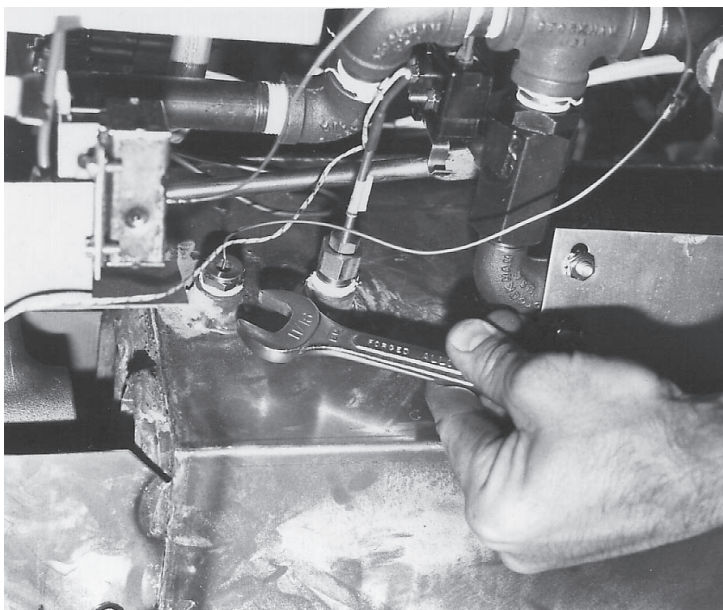

Fig. 82
20. With an 11/16" wrench remove the compression nut securing the limit bulb to the tank. (Fig. 82)